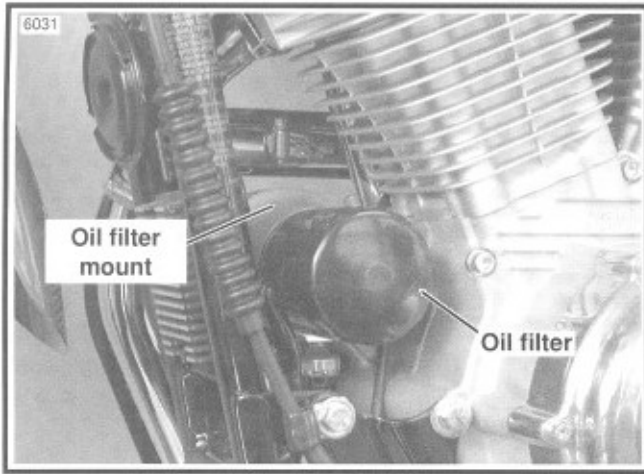

Figure 3-41. Oil Filter
6. Turn oil filter counterclockwise to remove from filter mount (see Figure 3-41). Discard oil filter.
4. Install marked oil feed, drain, vent and return hoses in their proper locations on oil tank fittings. See Figures 3-41 and 3-45. Be sure that installed hoses (and battery cables) do not touch brake line.